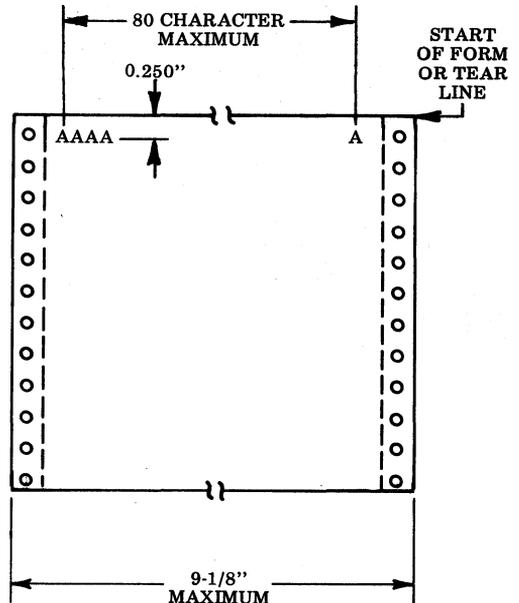

Fig. 65
- (2) The distance from the tear line to the first printing centerline is 0.250 inch (Fig. 65).
- (3) Printing in other lines is accomplished by inserting New Lines in the format.